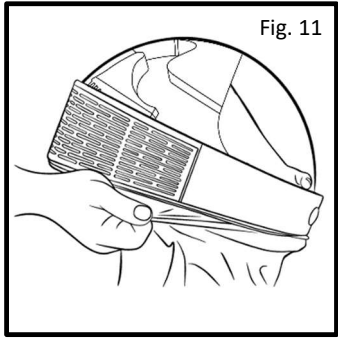

Fig. 11
- Check the fit by visually inspecting and touching that the seal edge is inside the groove (Fig. 11).